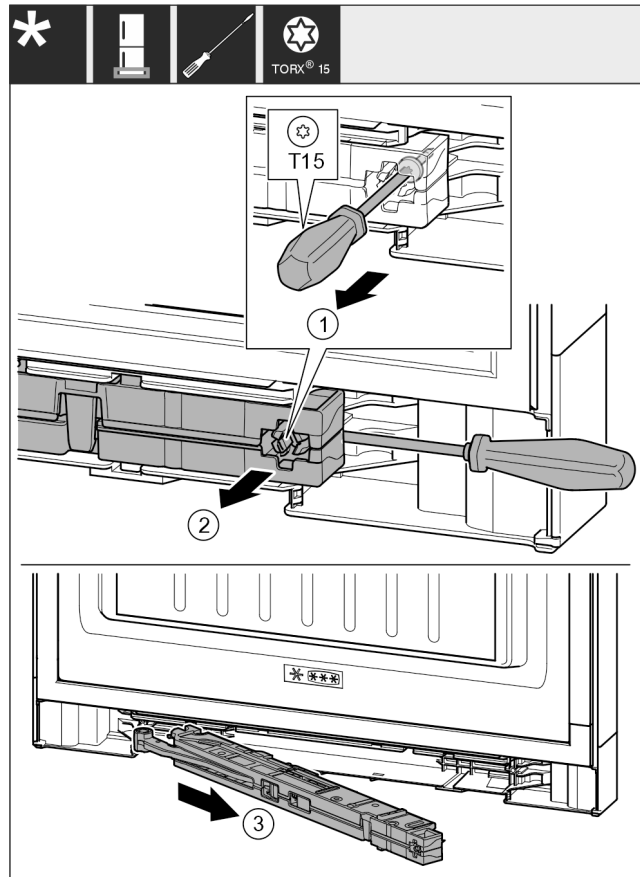

Fig. 21
- Use screwdriver to loosen the screw Fig. 21 (1) on the closing damper unit by 14 mm.
- Lever the closing damper unit Fig. 21 (2) forwards on the handle side using a screwdriver.
- Pull out the closing damper unit Fig. 21 (3).